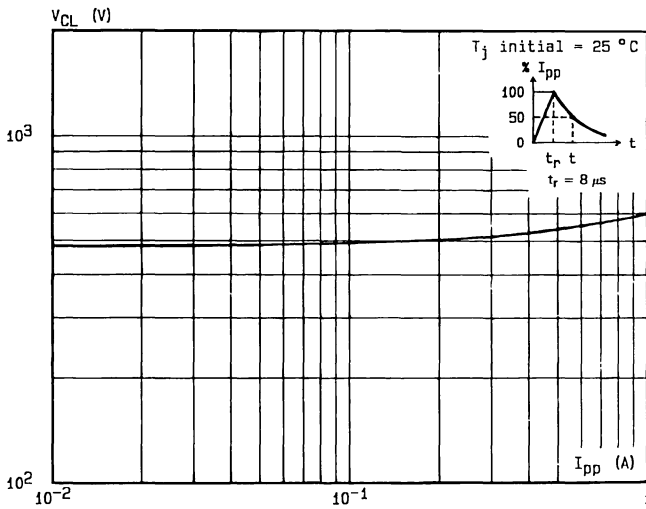

Fig.2 - Clamping voltage versus peak pulse current exponential waveform $t = 20 \mu s$.
Note : The curves of the figure 2 are specified for a junction temperature of 25 °C before surge. The given results may be extrapolated for other junction temperatures by using the following formula : $\Delta V (BR) = \alpha T (V (BR)) \times [T_j - 25] \times V (BR)$